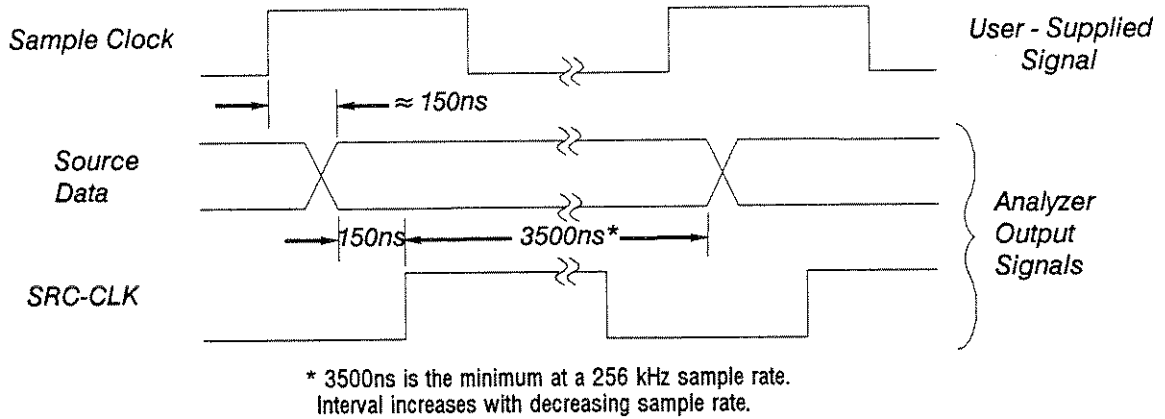

Figure 13-17. Source Timing Diagram
Source data is valid at every occurrence of the sample clock. See figure 13-17. Source data is updated at the effective sample rate of  $1/\Delta t$  where  $\Delta t$  appears in the state display. Source data becomes valid approximately 150 ns after the transition sample clock period (+ transition of Ext. Sample, or the selected transition of the channel clock or the Pod Q-Clk). An output signal on Pod X (SRC-CLK) indicates valid source data. This signal may be used to clock new source data into a register on the system under test. See also the SRC-CLK description under Pod X.
The digital source updates are triggered by the sample clock. The source clock which appears on Pod X as SRC-CLK is a “data-valid” signal that may be used to latch data into a circuit outside the analyzer. See figure 13-17. Source data becomes valid approximately 150 ns after the transition of the sample clock and is valid for the entire sample period.
- SRC-CLK** Source Clock is an analyzer output that indicates (on its rising edge) when source data becomes valid. The source clock signal becomes active (high) approximately 150 ns after the source data is valid, which occurs 100 to 200 ns after the sample clock edge. The source clock rising edge occurs once per sample period. Data remains valid beyond the falling edge. See figure 13-17 for timing information.